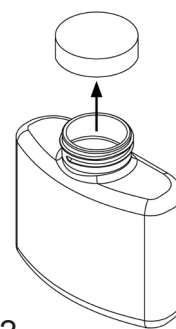

Fig. 2
4. Locate and remove the cap and protective seal from the top of a new TEZOM. The cap can be used to seal the old TEZOM for easy disposal. (Fig. 2)